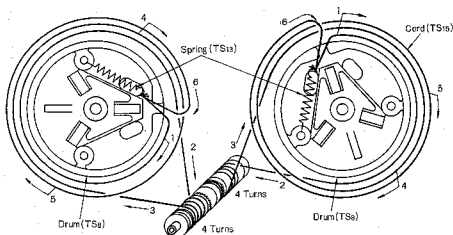

Fig. 32
4. Arrows (1~6) indicate correct order and direction of cord installation, as shown in fig. 32.